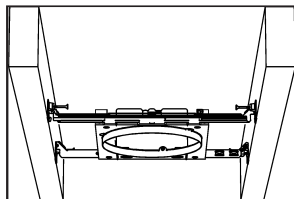
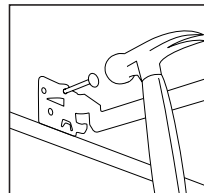

Figure 10
Figure 11
**Step 1.** Extend bar hangers to fit between joists. Bar hanger foot is contoured to easily align with bottom of joist (Fig.10). Position fixture by hammering Real-Nails® into joists (Fig. 11).